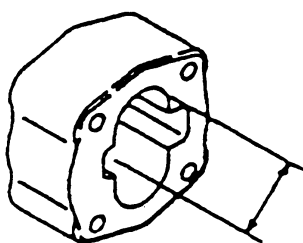

Fig. 7-10
- (a) Pump body inspection (Fig. 7-10)